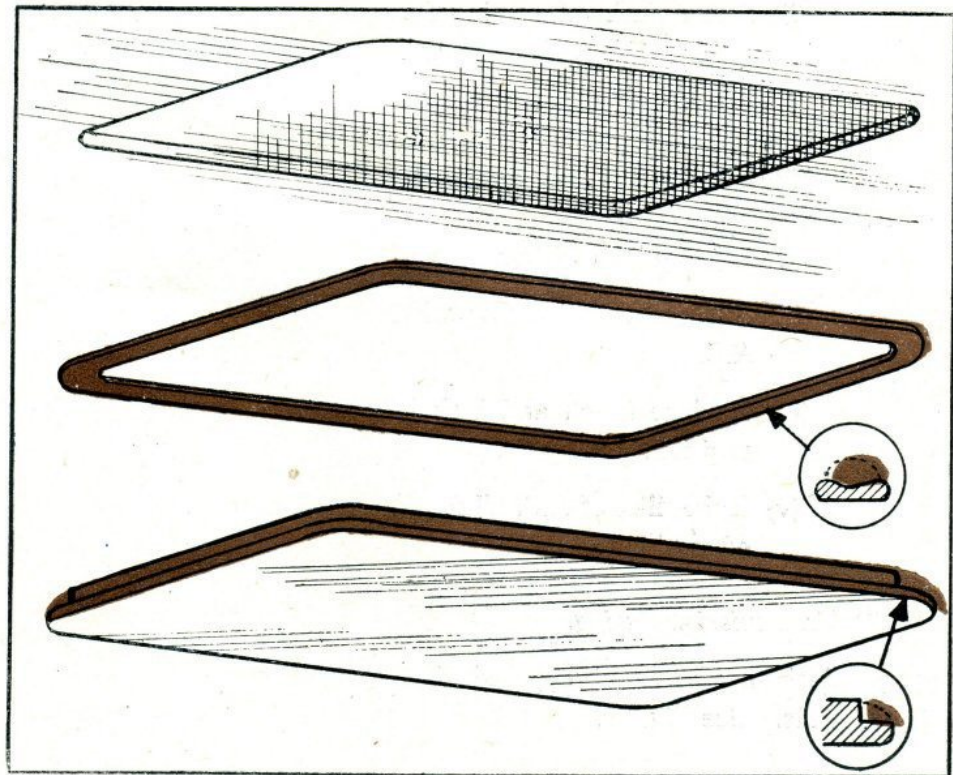

Fig. 14. Escape hatch.
- (i) Remove hatch, and remove gasket from hatch. See Fig. 14.